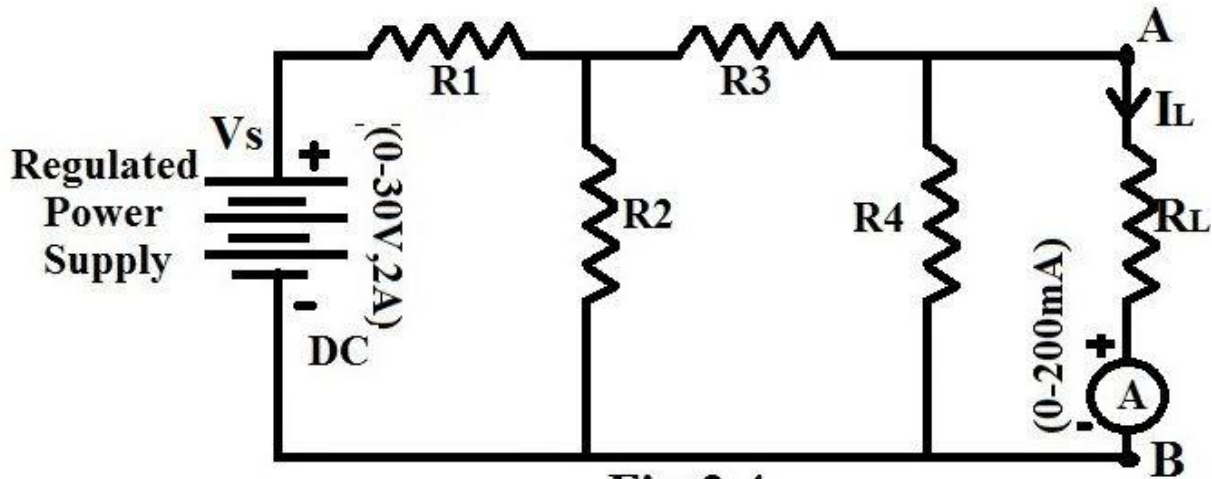

Fig:2.4
1. To find Load Current ( $I_L$ ), Apply the supply voltage  $V_s=5V$  by using Regulated Power Supply and Find the load current ( $I_L$ ) through the load resistance with circuit as shown in Fig 2.4.